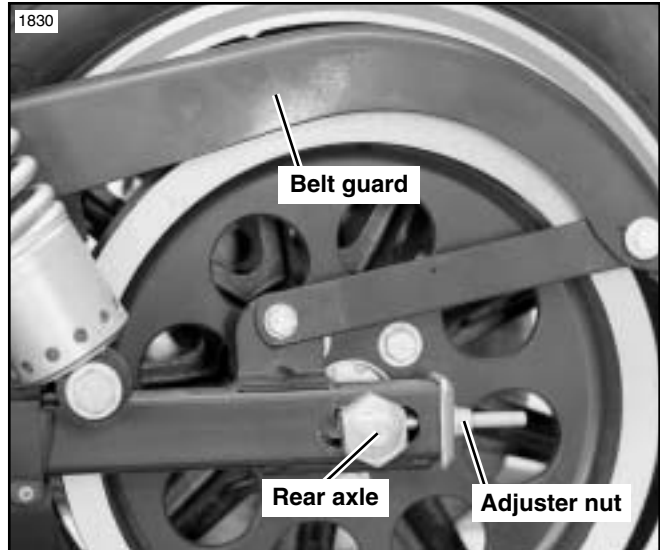

Figure 1. Axle Alignment
5. See Figure 1. Remove belt guard.
See Figure 1. Tighten each rear axle adjusting nut an equal amount to maintain sprocket and wheel alignment. Turn adjusting nuts as necessary to move the axle and to correctly adjust belt tension.
9. See Figure 1. Tighten rear axle nut to a torque of 60-65 ft-lbs. Recheck belt tension.